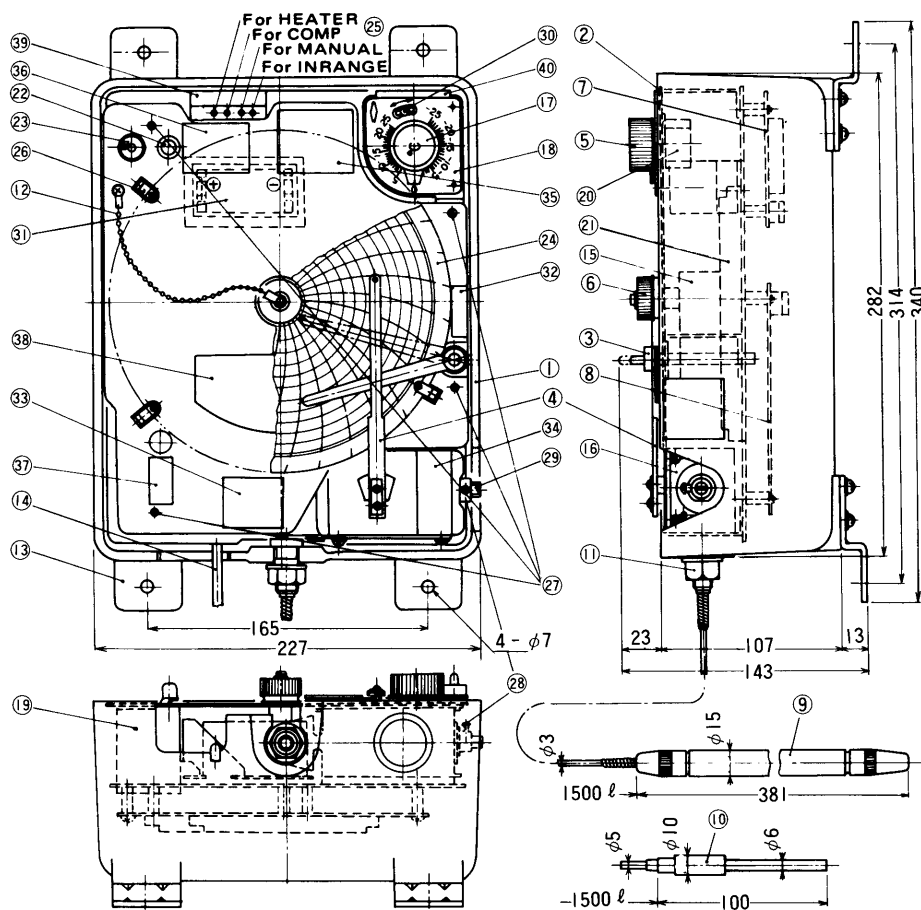

Fig. 1 Structure
- External wiring (Wiring from the devices in the control box to the unit body . . . to Terminal 21 in Fig. 1)